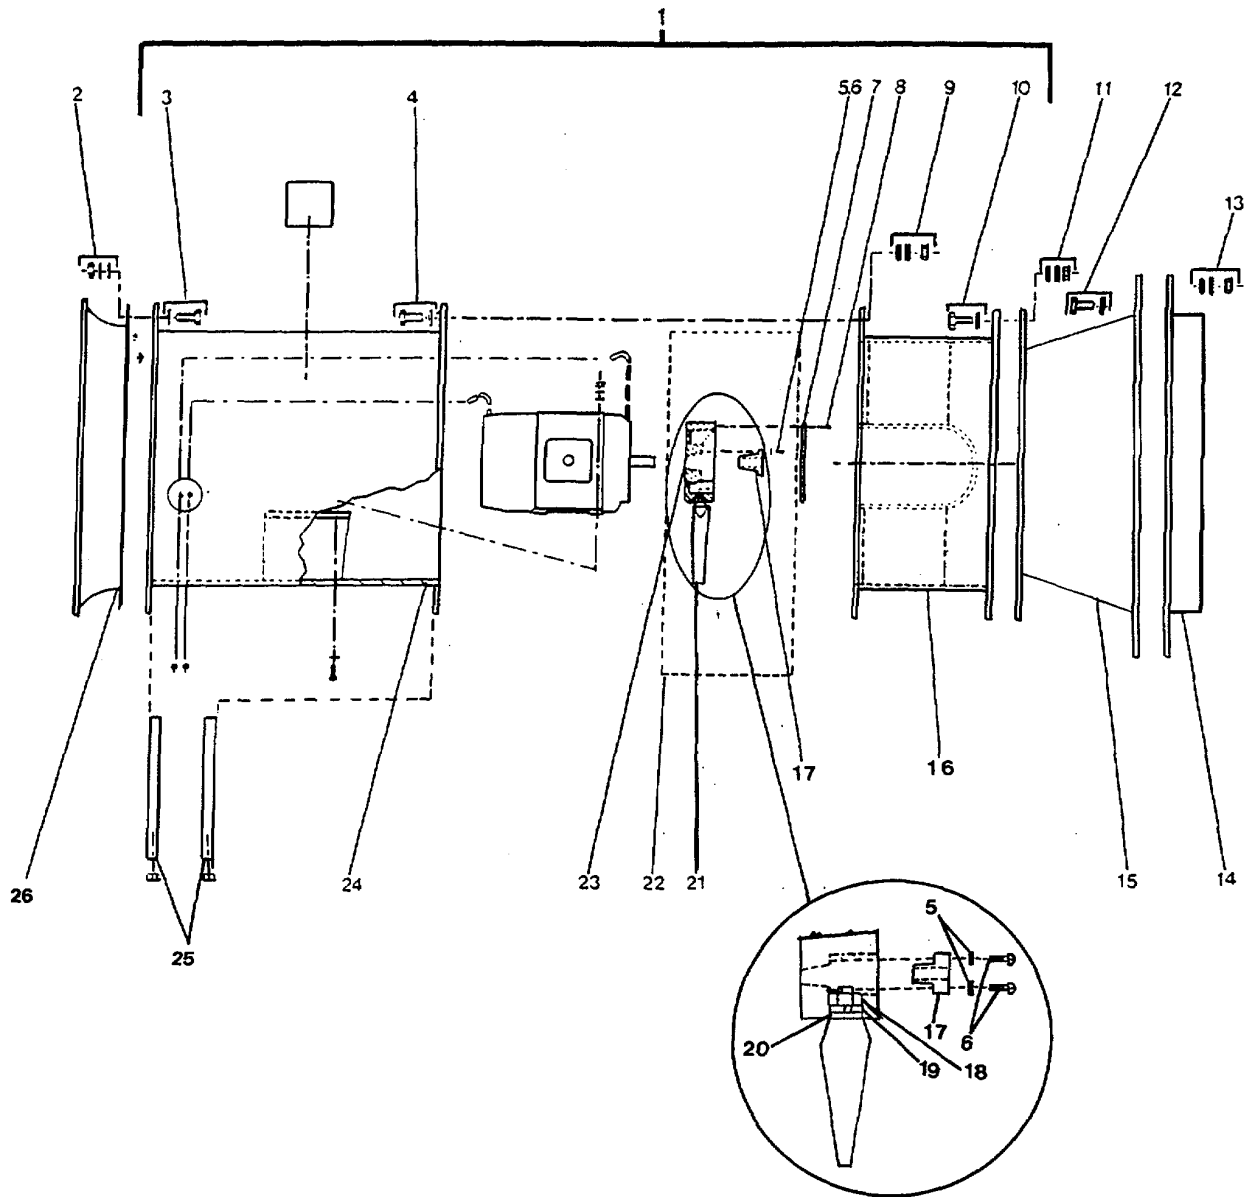

Figure 4-1 Ventilating Fan (Exhaust Fans 1 and 2)
- (7) Start the compressor. Slowly open the low side handwheel on the combination gauge. DO NOT open the high side handwheel. Charging must be accomplished through the charging valve on the suction line.
- (8) Observe both gauges on the manifold while charging. Also observe the sight glass in the liquid line.
- (9) When operating pressures are within proper range (suction: 58-72 psig; discharge: 170-230 psig), close the combination low side handwheel on the manifold. Check the sight glass. If bubbles, or a stream of bubbles, are observed, crack the low side handwheel and add more refrigerant until sight glass clears. DO NOT continue adding after sight glass has cleared.
- (10) The actual weight of refrigerant added to the system can be determined by weighing the R-22 container(s) again and deducting the weight(s) obtained from initial weight(2) recorded before recharging.
- (11) If the result is in excess of the amount required by the unit's dataplate, secure the compressor and release a small amount of refrigerant. Close the valve on the R-22 container, make sure the handwheel on the combination gauge is closed, and disconnect the common hoseline from the R-22 container. Release a small amount of refrigerant by momentarily cracking the handwheel on the combination gauge. Take care not to release too much, or refrigerant may have to be added back.
- (12) Start the compressor, allow to run for 5 minutes, and again check operating pressures and sight glass.
- (13) When charging is complete, stop the compressor and close the suction and discharge service valves fully counterclockwise. Disconnect the gauge manifold and install protective caps on both service valve stems and gauge connections.
**4-11. Replace/Repair Fan, Ventilating (Exhaust Fans 1 and 2). (FIGURE 4-1)**